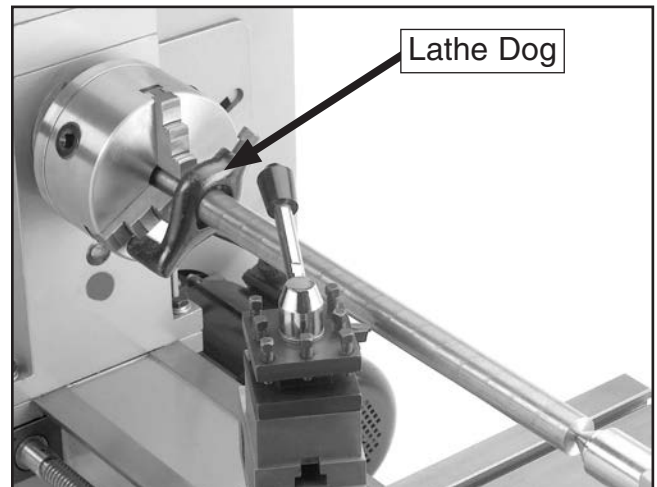

Figure 40. Bar stock mounted between centers with lathe dog.
4. Attach a lathe dog to the bar stock and mount it between the centers (**Figure 40**).